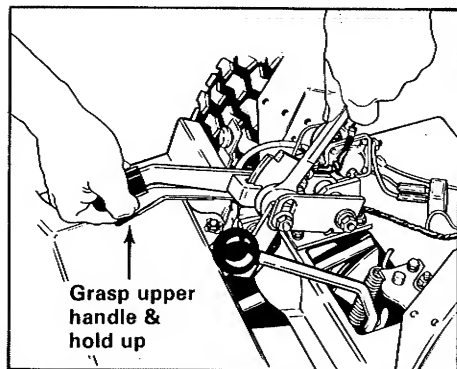

Figure 29. Tightening the Shoulder Bolt
13. Tighten the shoulder bolt while holding the control lever up firmly as shown in figure 29. If the lever moves down at all while retightening, loosen the shoulder bolt and go back to step 11.